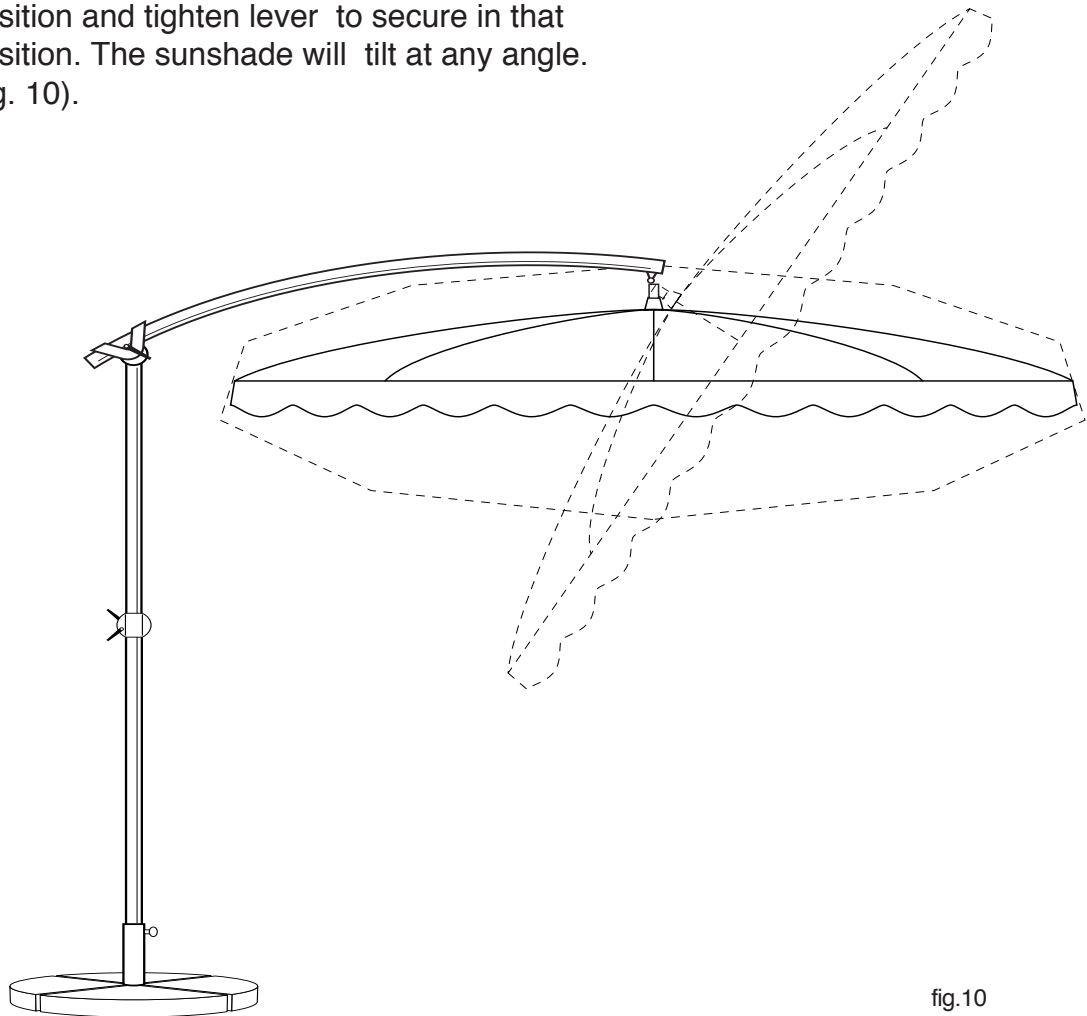

fig.10
1. To tilt the sunshade according to angle of the sun, have locking lever loosened. Adjust the sunshade to the desired position and tighten lever to secure in that position. The sunshade will tilt at any angle. (fig. 10).